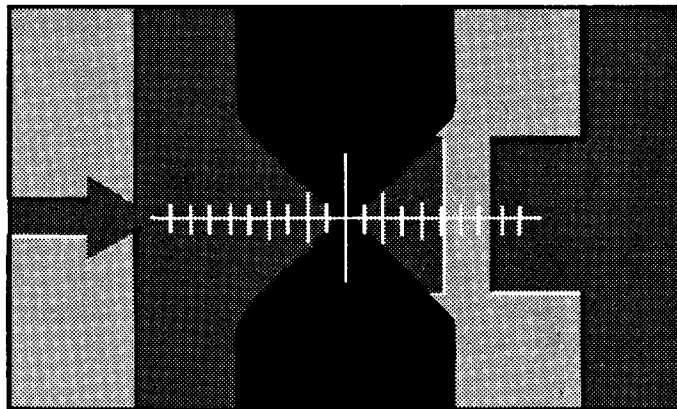

Figure 7-2. Stylus/Step Positioning
3. Place the appropriate Calibration Standard on the sample stage, lower the stylus and position it as shown in Figure 7-2.